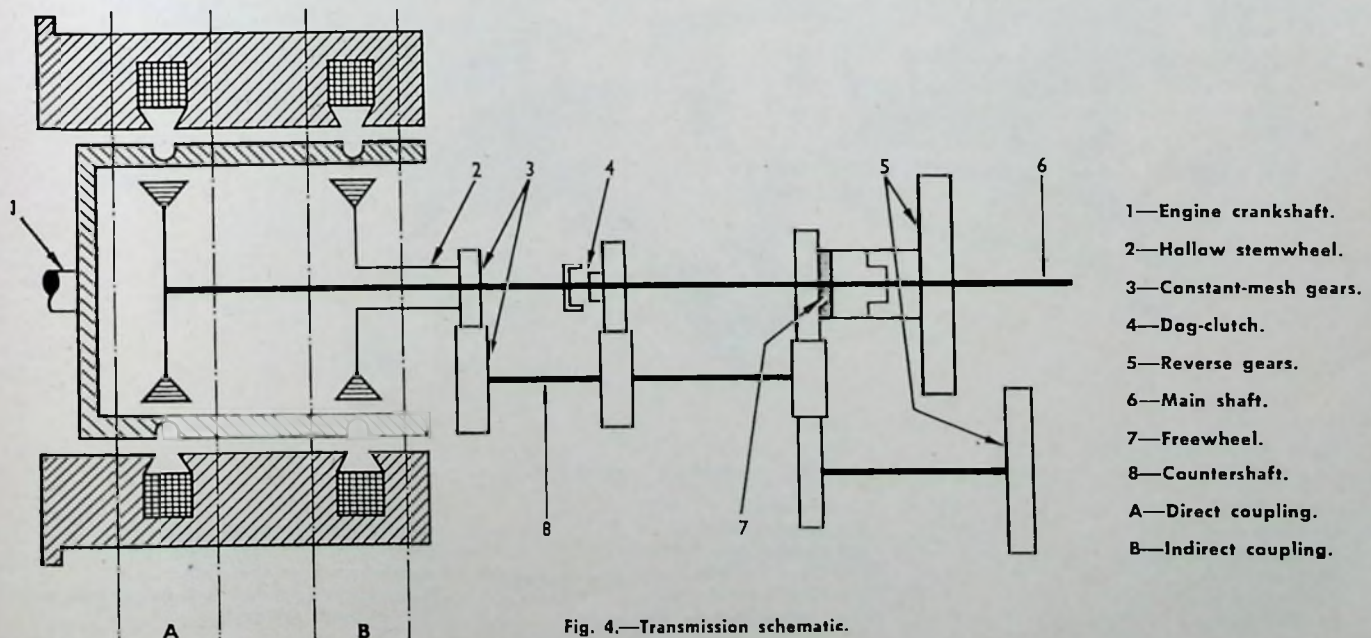
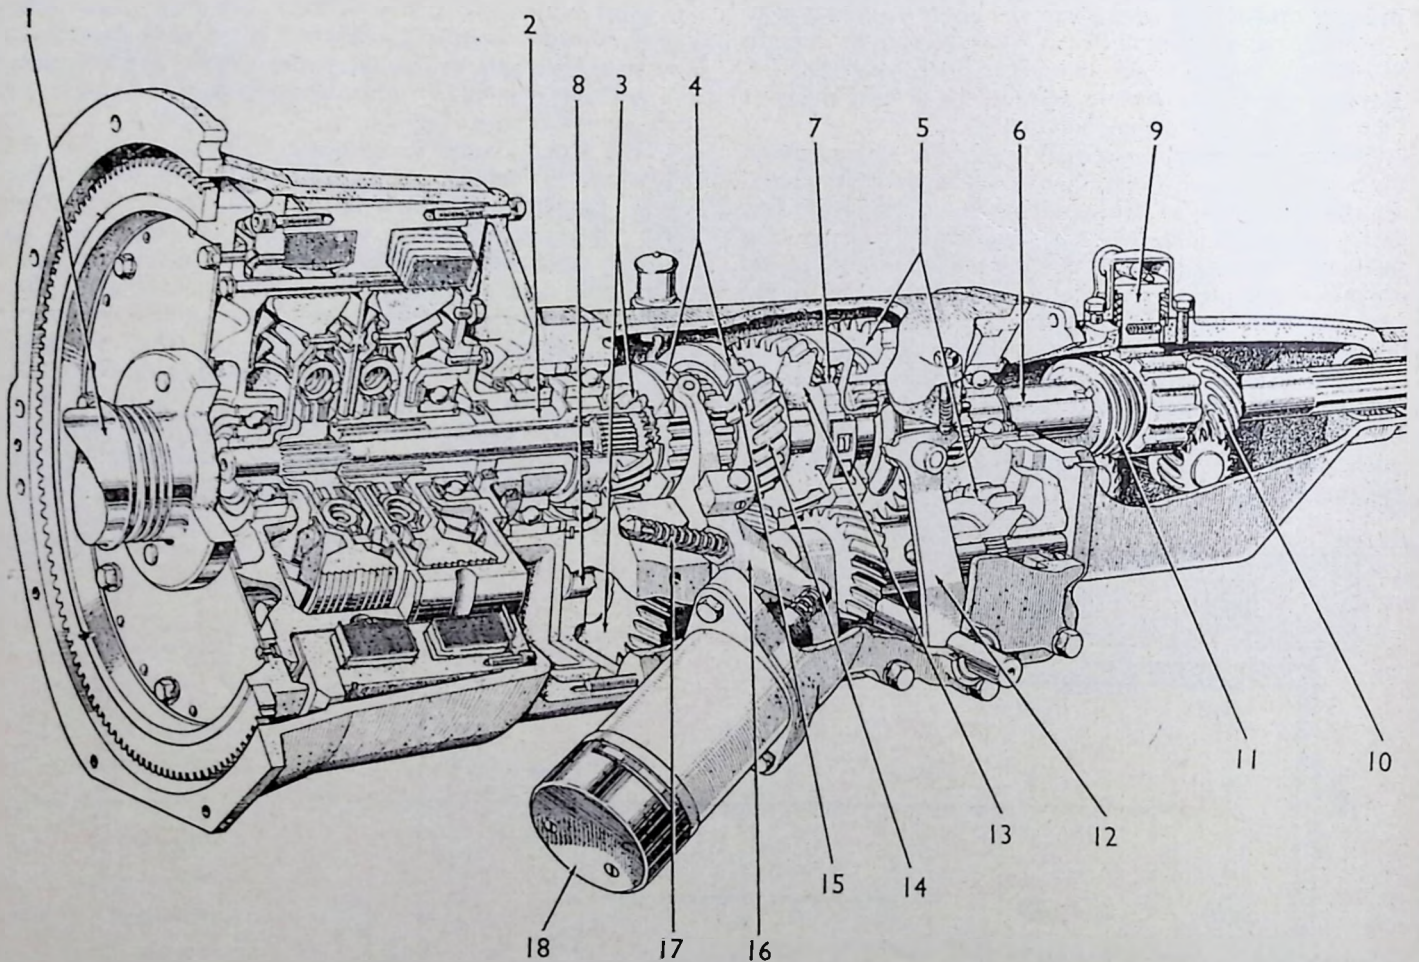

Fig. 4.—Transmission schematic.
FIG. 5.—Sectioned transmission.
The automatic transmission comprises two magnetic powder couplings driving a gearbox by means of co-axial shafts. A cut-away view of the arrangement is provided in Fig. 5 and its operation is shown in schematic form in Fig. 4.
The front magnetic coupling (A, Fig. 4) drives the gearbox mainshaft (6) and gives Direct drive. The rear magnetic coupling (B) drives the countershaft (8), through a hollow stemwheel (2) mounted co-axially with the mainshaft, via constant-mesh gears (3). The countershaft drives the mainshaft either through a pair of constant-mesh gears and a freewheel (7) giving Low gear, or through a further constant-mesh gear train and a solenoid-operated dog-clutch (4) giving Intermediate gear. Reverse is obtained by a sliding gear (5), splined to the mainshaft, which is manually engaged with the reverse gear train; moving this gear also disengages the freewheel.
The following is a description of the routing of the drive through the transmission after the above gear conditions have been engaged. (Refer to Fig. 4.)